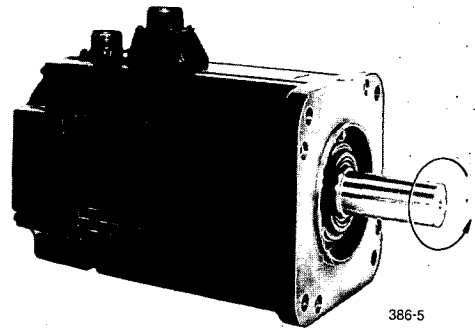

Fig. 9.1 Motor Forward Running
- When the reference voltage is positive, the motor rotates forward (counterclockwise when viewed from the drive end-output shaft) (Fig. 9.1)